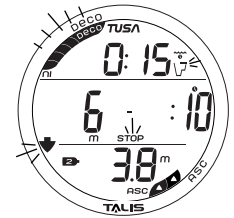

Fig. 66 - DV1 MAIN
**DV1 Main**, information includes (Fig. 66):